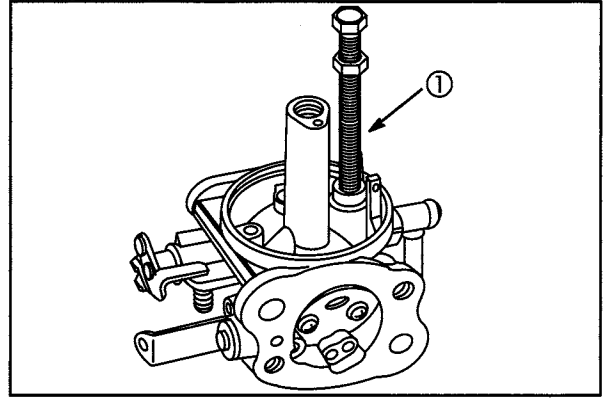

**Fig. 48**
12. Remove two screws (20), choke plate (21), shaft, seal (24) and washer (25), **Fig. 48**.